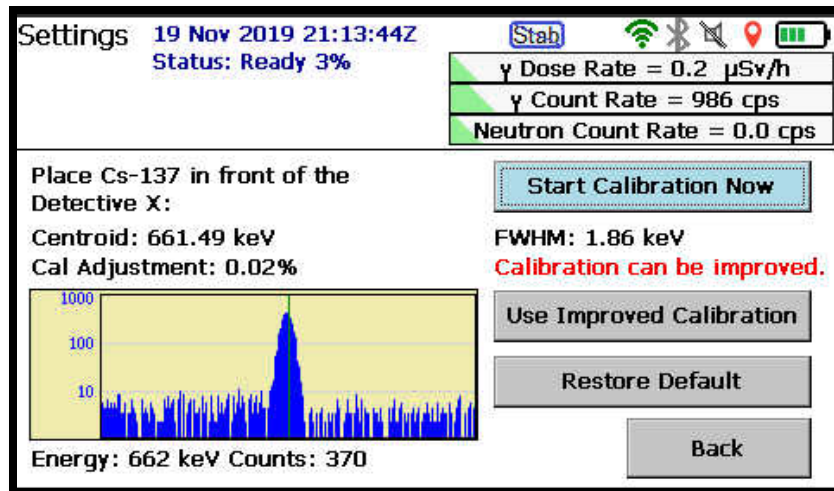

Figure 96. Calibrate Screen
2. Tap **Settings** to open the Settings screen, then tap **Calibrate** to display the screen shown in Figure 96.